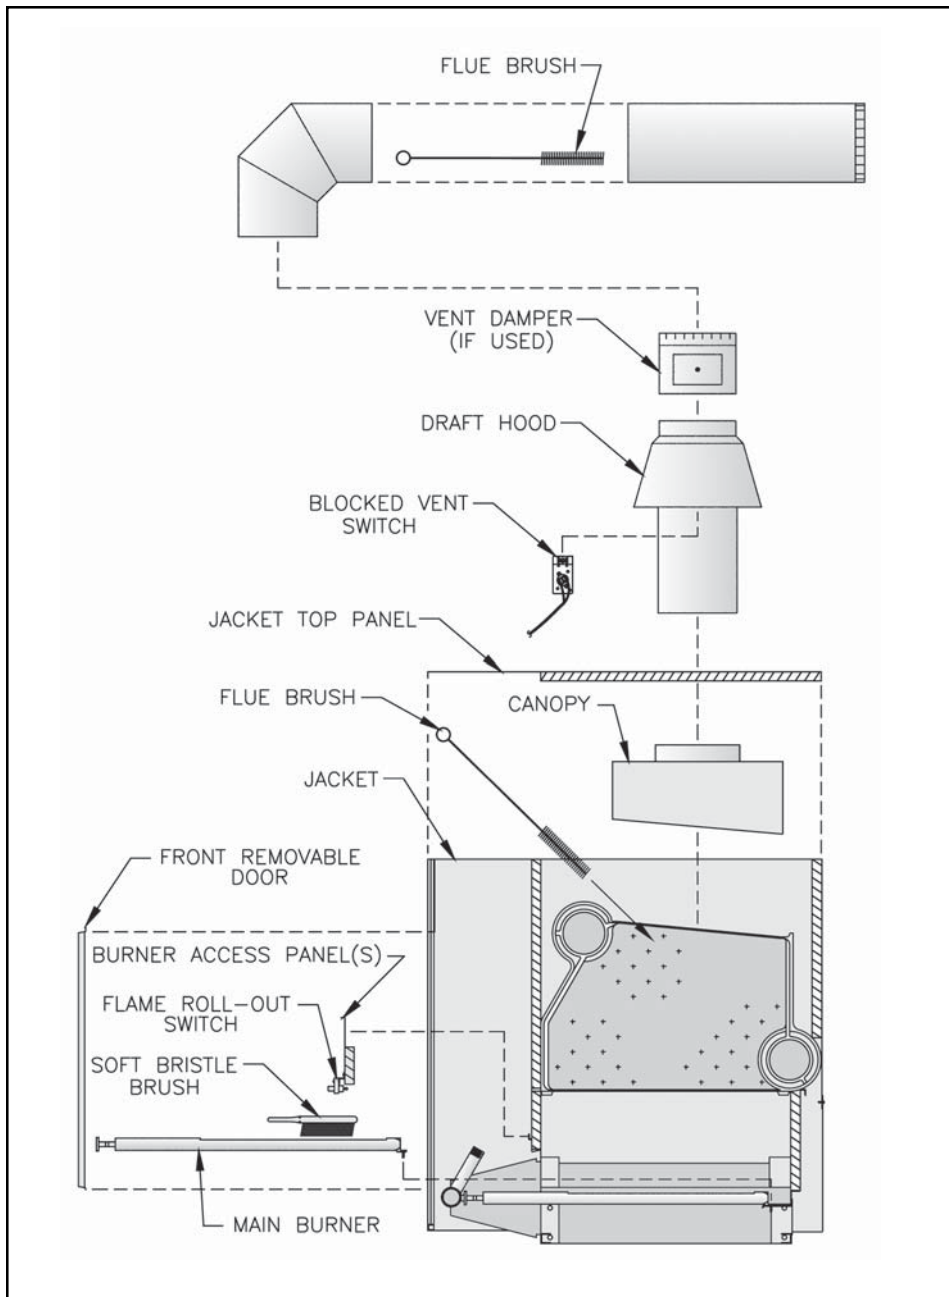

Figure 60: Boiler Flueway Cleaning
8. Check burners to be sure they do not contain foreign matter or restrictions. Clean burners with a soft bristle brush, blow any dirt out with compressed air or use a vacuum cleaner. See Figure 60.
5. Thoroughly clean flueways with flue brush, removing all scale and soot. See Figure 60.